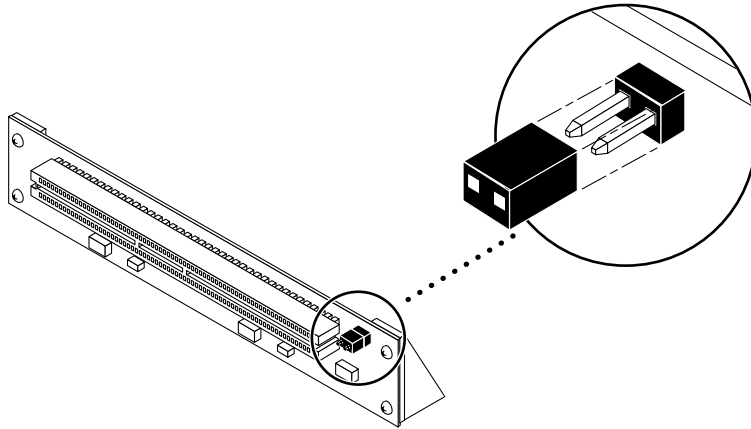

FIGURE 1-6 JTAG Jumper
2. Verify that the JTAG test jumper is removed/disabled (FIGURE 1-6).